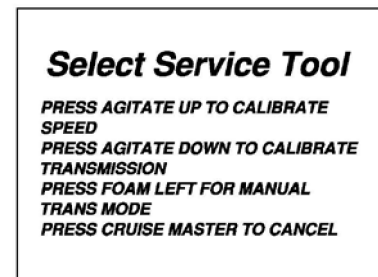

Figure 2
5. Check to make sure the transmission is in manual mode. If it is not, press 'Foam Left' for manual mode and then return to step 4 (Figure 2).
6. At the Service Tools menu, Press the 'Agitate Down' button to start the calibration process (Figure 2).